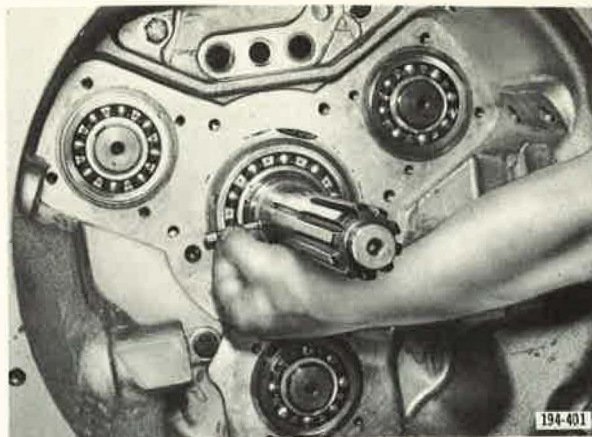

Figure 14. Removing Oil Pump Vane
7. Remove oil pump vane from main driving pinion. Tap on gear end of main driving pinion with a nylon mallet, if necessary, and remove assembly from case. See Figures 14 and 15.